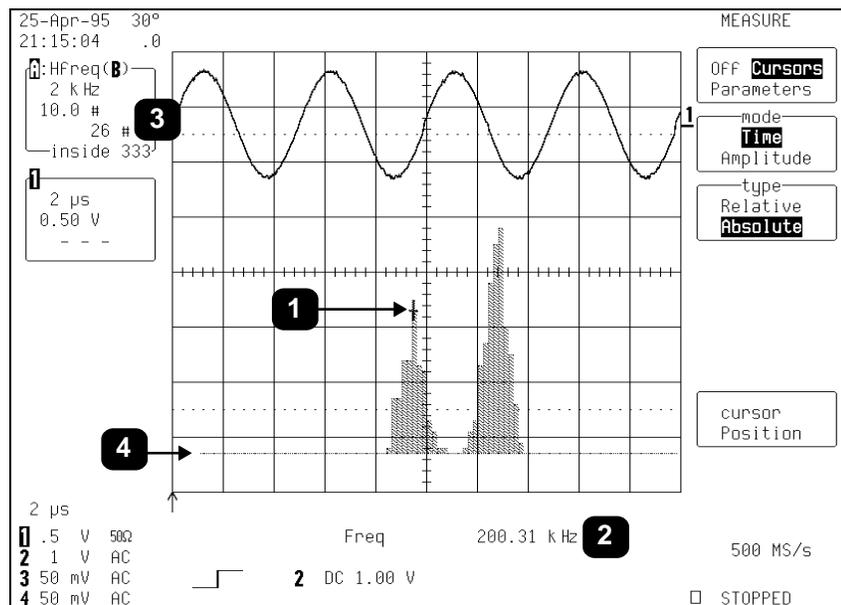

Figure 2.19
The scope's measurement cursors are useful for determining the value and population of selected bins. *Figure 2.19* shows the "Time" cursor (①) positioned on a selected histogram bin. The value of the bin (②) and the population of the bin (③) are also shown.